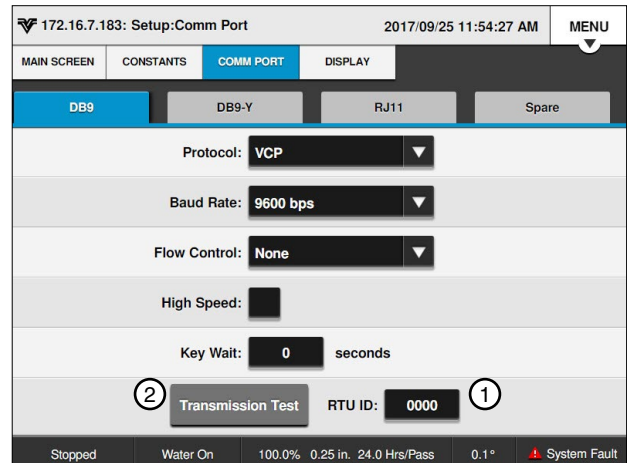

Figure 45-1 DB9 Comm Port Screen
The Transmission Test button sends a transmission test notice event message through an optional communication device, such as a radio or phone modem, to another control panel or BaseStation equipped with a similar communication device. Use the Transmission Test button to test communications after installation. There is a random 0 to 10 second delay prior to the transmission of data. Refer to Figure 45-1.
1. Select the **RTU ID** field. Refer to Figure 45-1.